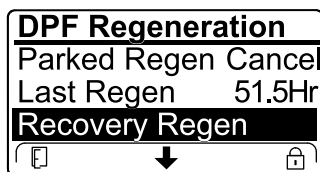

Figure 50
- If the engine computer has not requested a recovery regeneration and you scroll down to the RECOVERY REGEN option, the recovery regeneration locks and the lock icon (Figure 50) appears in the lower right corner of the InfoCenter.